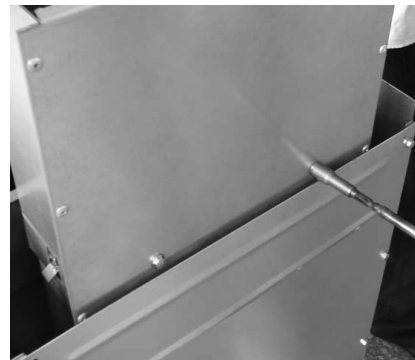

Figure 7-2
2. Use a 5/16" socket and the two self-tapping screws that are provided to secure the flue top to the oil tank. See Figure 7-2.